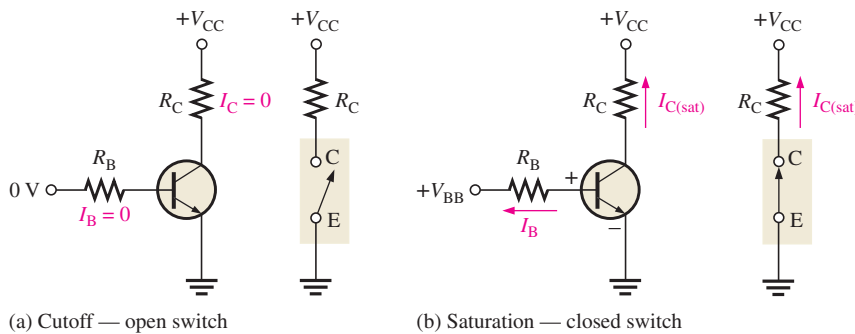

FIGURE 4–23
With this in mind, let's look at the circuit in Figure 4–21. An ac voltage, V_s , is superimposed on the dc bias voltage V_{BB} by capacitive coupling as shown. The dc bias voltage V_{CC} is connected to the collector through the collector resistor, R_C .
◀ FIGURE 4–21
The ac input voltage produces an ac base current, which results in a much larger ac collector current. The ac collector current produces an ac voltage across R_C , thus producing an amplified, but inverted, reproduction of the ac input voltage in the active region of operation, as illustrated in Figure 4–21.
The forward-biased base-emitter junction presents a very low resistance to the ac signal. This internal ac emitter resistance is designated r'_e in Figure 4–21 and appears in series with R_B . The ac base voltage is
Equation 4–7 shows that the transistor in Figure 4–21 provides amplification in the form of voltage gain, which is dependent on the values of R_C and r'_e .
Determine the voltage gain and the ac output voltage in Figure 4–22 if $r'_e = 50\ \Omega$.
► **FIGURE 4–22**
Related Problem What value of R_C in Figure 4–22 will it take to have a voltage gain of 50?
5. A transistor connected as in Figure 4–22 has an $r'_e = 20\ \Omega$. If R_C is 1200 Ω , what is the voltage gain?
Figure 4–23 illustrates the basic operation of a BJT as a switching device. In part (a), the transistor is in the cutoff region because the base-emitter junction is not forward-biased. In this condition, there is, ideally, an *open* between collector and emitter, as indicated by the switch equivalent. In part (b), the transistor is in the saturation region because the base-emitter junction and the base-collector junction are forward-biased and the base current is made large enough to cause the collector current to reach its saturation value. In this condition, there is, ideally, a *short* between collector and emitter, as indicated by the switch equivalent. Actually, a small voltage drop across the transistor of up to a few tenths of a volt normally occurs, which is the saturation voltage, $V_{CE(sat)}$.
- (a) For the transistor circuit in Figure 4–24, what is V_{CE} when $V_{IN} = 0$ V?
► FIGURE 4–24
Related Problem Determine the minimum value of I_B required to saturate the transistor in Figure 4–24 if β_{DC} is 125 and $V_{CE(sat)}$ is 0.2 V.
The transistor in Figure 4–25 is used as a switch to turn the LED on and off. For example, a square wave input voltage with a period of 2 s is applied to the input as indicated. When
► FIGURE 4–25
The LED in Figure 4–25 requires 30 mA to emit a sufficient level of light. Therefore, the collector current should be approximately 30 mA. For the following circuit values, determine the amplitude of the square wave input voltage necessary to make sure that the transistor saturates. Use double the minimum value of base current as a safety margin to ensure saturation. $V_{CC} = 9\text{ V}$, $V_{CE(\text{sat})} = 0.3\text{ V}$, $R_C = 220\ \Omega$, $R_B = 3.3\text{ k}\Omega$, $\beta_{DC} = 50$, and $V_{LED} = 1.6\text{ V}$.
If you change the LED in Figure 4–25 to one that requires 50 mA for a specified light emission and you can't increase the input amplitude above 5 V or V_{CC} above 9 V, how would you modify the circuit? Specify the component(s) to be changed and the value(s).
Figure 4–28 shows a phototransistor with a biasing circuit and typical collector characteristic curves. Notice that each individual curve on the graph corresponds to a certain value of light intensity (in this case, the units are mW/cm^2) and that the collector current increases with light intensity.
◀ **FIGURE 4–28**
Phototransistors are not sensitive to all light but only to light within a certain range of wavelengths. They are most sensitive to particular wavelengths in the red and infrared part of the spectrum, as shown by the peak of the infrared spectral response curve in Figure 4–29.
◀ **FIGURE 4–29**
Phototransistors are used in a variety of applications. A light-operated relay circuit is shown in Figure 4–30(a). The phototransistor Q_1 drives the BJT Q_2 . When there is sufficient incident light on Q_1 , transistor Q_2 is driven into saturation, and collector current through the relay coil energizes the relay. The diode across the relay coil prevents, by its limiting action, a large voltage transient from occurring at the collector of Q_2 when the transistor turns off.
Figure 4–30(b) shows a circuit in which a relay is deactivated by incident light on the phototransistor. When there is insufficient light, transistor Q_2 is biased on, keeping the relay energized. When there is sufficient light, phototransistor Q_1 turns on; this pulls the base of Q_2 low, thus turning Q_2 off and de-energizing the relay.
► FIGURE 4–30
An **optocoupler** uses an LED optically coupled to a photodiode or a phototransistor in a single package. Two basic types are LED-to-photodiode and LED-to-phototransistor, as shown in Figure 4–31. Examples of typical packages are shown in Figure 4–32.
► FIGURE 4–31